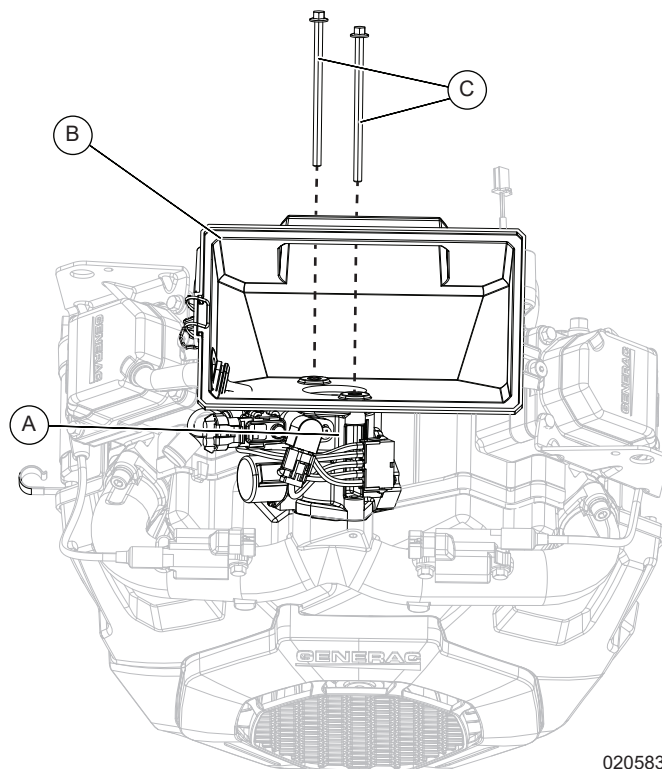

Figure 12-24. Install Air Box
1. See Figure 12-24. Install throttle body assembly (A) and air box assembly (B) onto intake manifold using two bolts (C). Verify air box bolt holes align with the tabs on the covers.